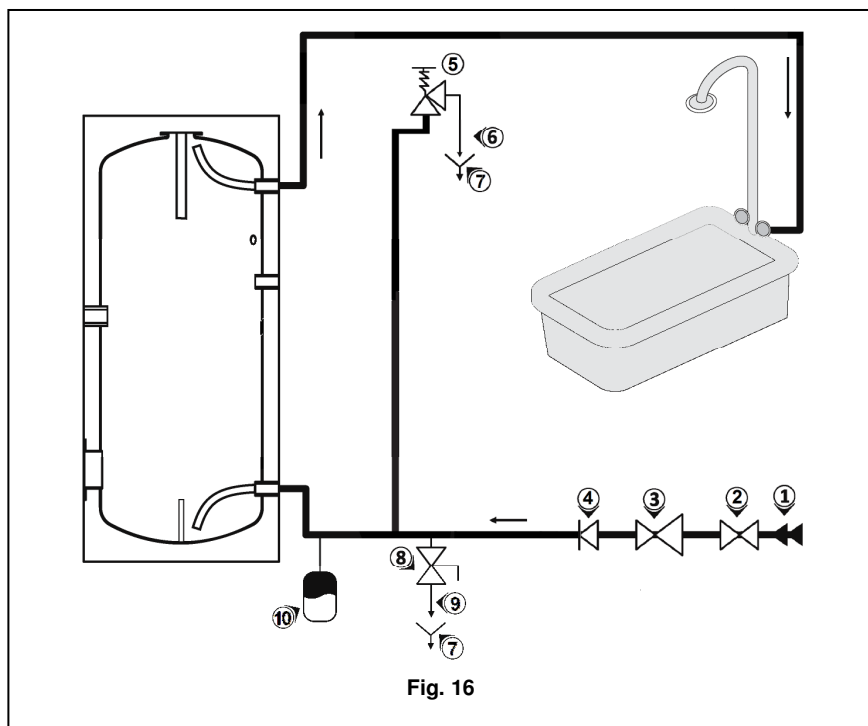

Fig. 16
**ATTENTION!** Connecting buffers DHW to the main water supply is shown on Fig.16. Explanation could be found in p.III.c
**ATTENTIUNE!** Racordarea buffer-elor la rețea de alimentare cu apa se face in concordanta cu Fig.16 si punctul III.c.